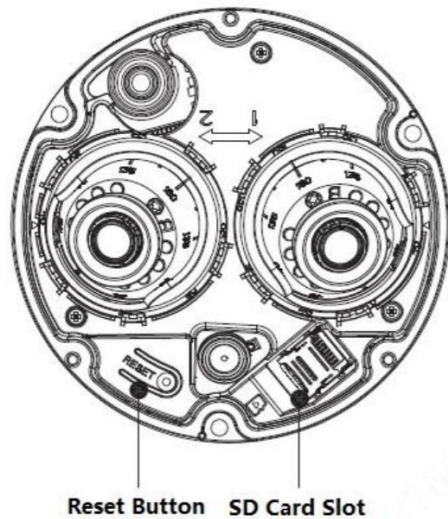

Figure 2-4
**Step 2** Press the RESET button for 15-30 seconds to complete the reset function. See Figure 2-4. The camera will reboot when the reset process is complete.